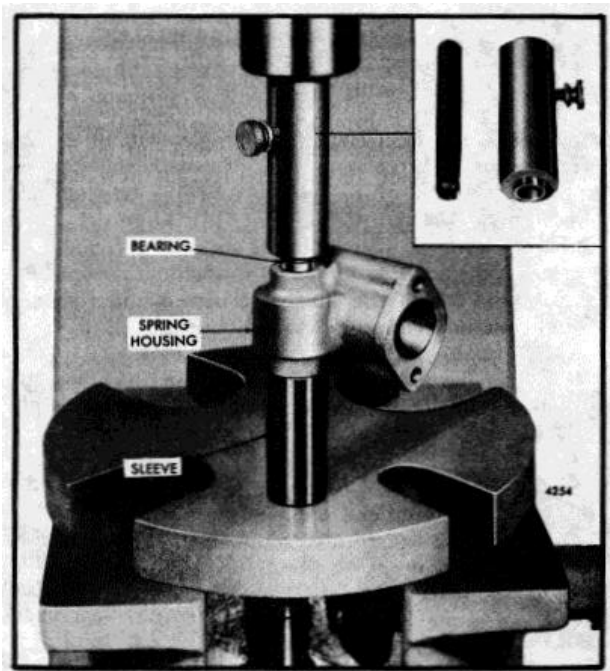

Fig. 14. Installing Speed Control Shaft Bearings in Spring Housing using Tool J 9196.
3. Place the pilot rod end of the bearing installer assembly in the bearing. Support the spring housing, bearing and installer on a short sleeve on the bed of an arbor press as shown in Fig. 14, then press the bearing in the housing until the shoulder on the installer contacts the housing.
9. Remove the bearing pilot rod J 9196-2 from the installer body J 9196-1 and place the installer body over the end of the shaft and against the bearing. Support the spring housing, bearings and installer on a short sleeve on the bed of an arbor press as shown in Fig. 14, then press the bearing in the housing until the shoulder on the installer contacts the housing.